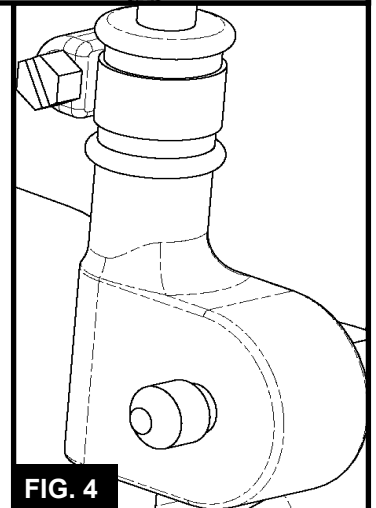

FIG. 4
6.4 Loosen the clamp on the P-boot which secures it to the HCV linkage rod with a flat head screw driver in order to position the linkage rod with the bracket of the trailing arm (See FIG. 4).